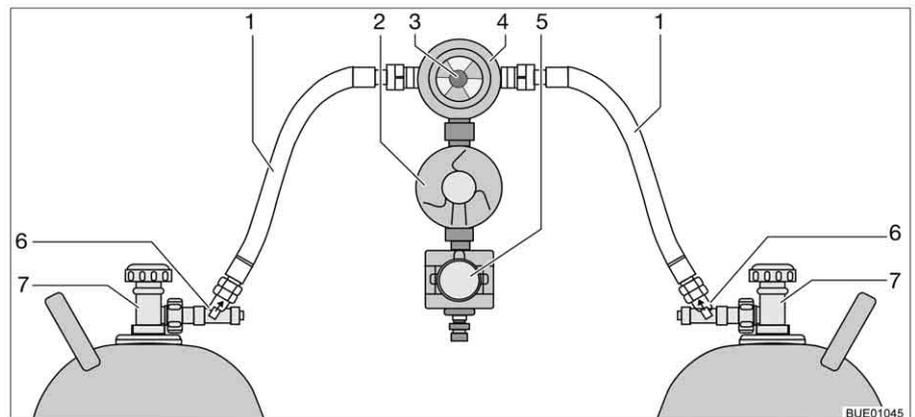

Fig. 165 Crash protection unit switching facility
The crash protection unit consists of two flow restrictors with manual release button (Fig. 165,6) a reversing valve (Fig. 165,4) with pressure regulator (Fig. 165,2), an electrovalve (Fig. 165,5) and the operating unit with tricoloured LED. The reversing valve is installed between the two gas tubes (Fig. 165,1).
Use the knob (Fig. 165,3) on the reversing valve to select which of the gas bottles is to be used as a primary bottle and which is to be used as a reserve bottle.
Only the electrical functions can be switched at the operating unit (Fig. 166). The regulator taps on the gas bottles (Fig. 165,7) and the release buttons (Fig. 165,6) must be opened manually.
- Open the regulator taps of the gas bottles (Fig. 165,7).
- Press the release buttons (Fig. 165,6) successively for 10 seconds.
- Use the knob (Fig. 165,3) on the reversing valve (Fig. 165,4) to select the gas bottle which is to be the primary source of gas (primary bottle). Always turn the knob as far as it will go.
- Close the regulator taps of the gas bottles (Fig. 165,7).